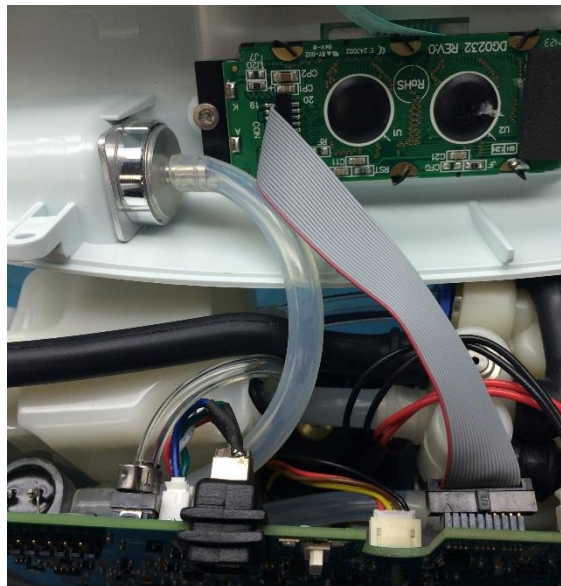

Figure 6: Orientation of LCD cable
3. Reconnect the cable to the LCD module (Figure 6).